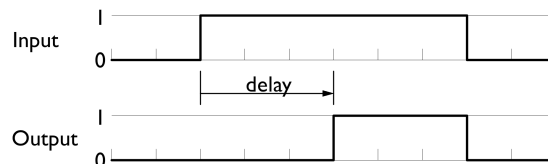
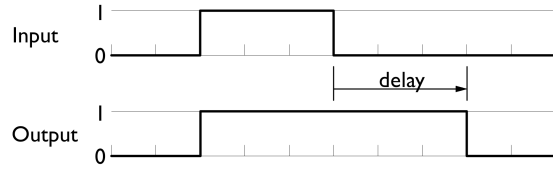

Figure 7.15: Off Delay Timer
Figure 7.16: Off Delay Timer
- **On-Delay** This type of timer “delays turning on”. After triggering the timer, there will be an adjustable delay before the output of the timer is activated. The timer turns off when the input turns off. This is the most common timer and is sometimes called TON. See the timing diagram shown in Figure 7.15.
- **Off-Delay** This type of timer is the opposite; it “delays turning off”. When the timer is triggered, the output is turned ON. When the trigger signal goes away, the output is held ON for an adjustable period before it is turned OFF. This timer is sometimes called TOF. See the timing diagram shown in Figure 7.16
Do the lamps follow the timing diagrams shown in Figure 7.15 and Figure 7.16? Yes No